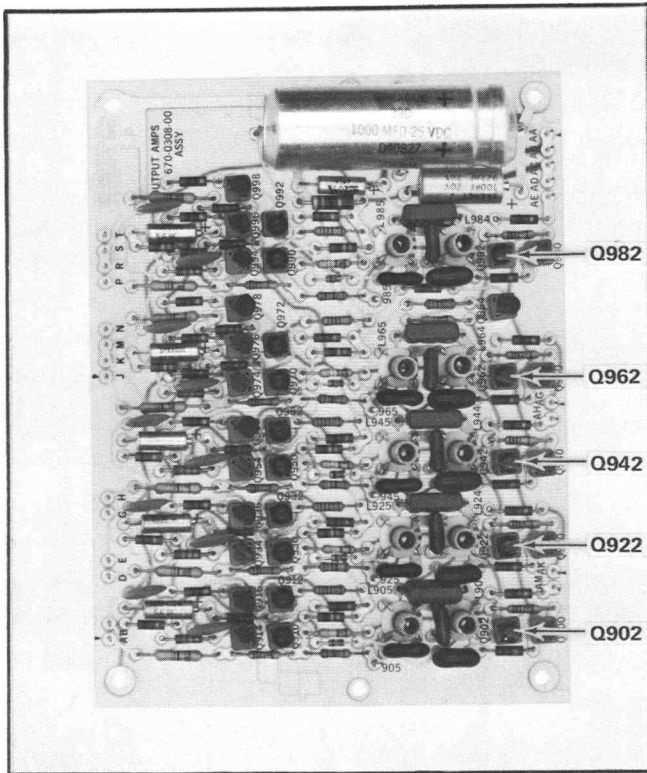

Fig. 5-49. Output Amplifier board transistor locations.
h. Remove transistors Q902, Q922, Q942, Q962, and Q982 on the Type R140 Output Amplifier board; see Fig. 5-49.